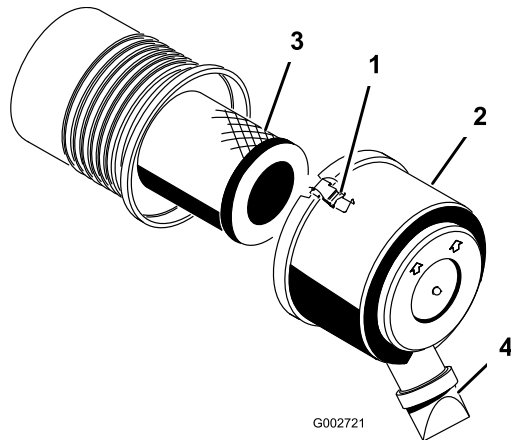

Figure 27
1. Release the latches securing the air cleaner cover to the air cleaner body (Figure 27).